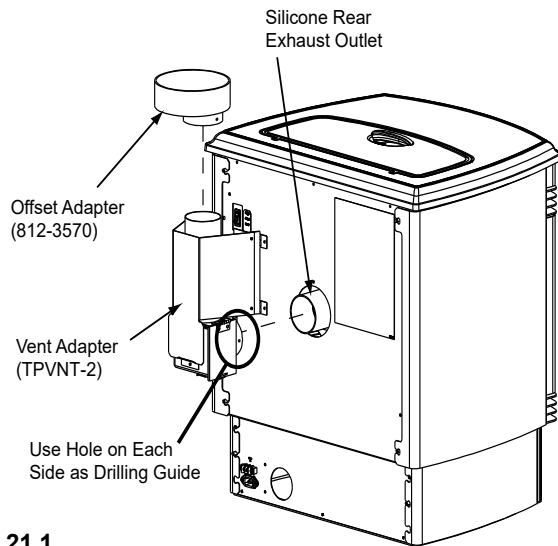

Figure 21.1
1. Put a layer of high temperature silicone on the 3 inch (76mm) exhaust outlet. **Do not put silicone inside of pipe (Figure 21.1).**
2. Slide the top vent adapter onto the rear exhaust outlet and adjust the assembly to a vertical position (Figure 21.1).
5. Drill 2 holes with #26 drill bit through the rear exhaust outlet using the 2 holes already in the short horizontal pipe in the top vent adapter as a guide. Install the 2 screws (Figure 21.1).